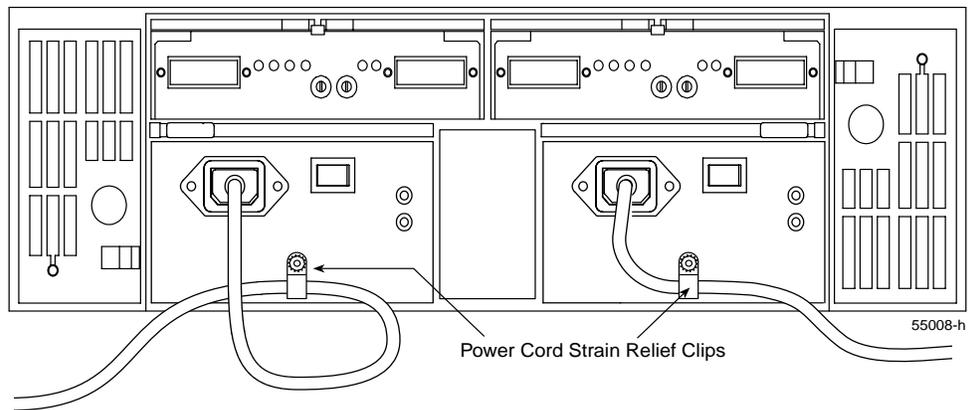

Figure 8-15 Securing the Power Cords in the Cord Clips
6. To keep the power cords from being accidentally pulled from the power connections, secure the cords in the strain relief power cord clips. Figure 8-15 shows how the cords should be secured.